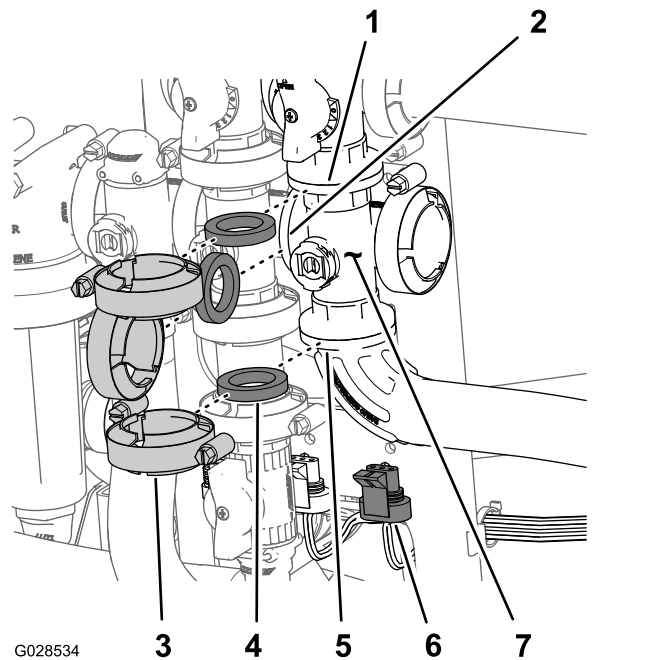

Figure 87
1. Remove clamps and gaskets that secure the manifold for the master boom valve (Figure 87) to the master boom bypass valve, agitation valve, and 90° flanged elbow (at the end of the hose for the flow meter).